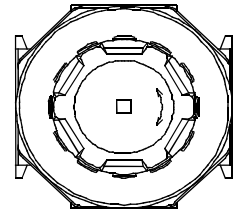

Fig.2
- 2) Rotating H-direction (Clockwise) increases pressure, while L-direction (Counter-Clockwise) for decrease. (Refer to Fig.2)
- 3) Knob cannot be rotated when they are pushed to be locked. (Refer to Fig.2)